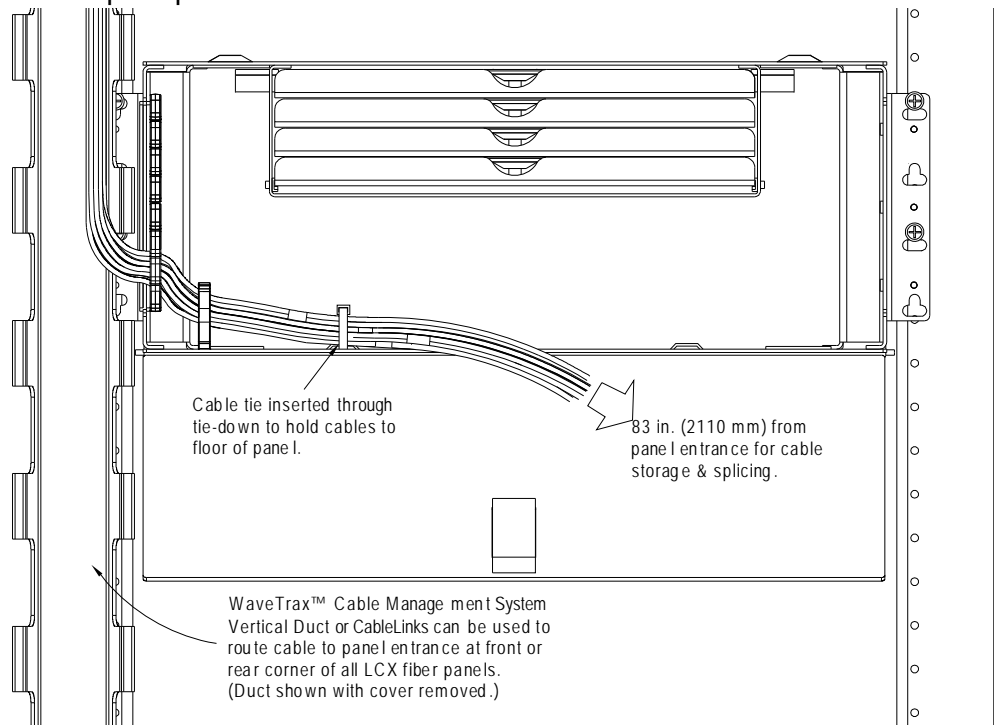

Figure 44 - Cable Placement and Securing
- If using discrete fiber cables at a front corner entrance, use a cable management system such as illustrated in Figure 44.
5. As shown in Figure 44, place the cables in the plastic ring at the panel entrance and then use the supplied cable ties (or other restraint) to tie down cables to the floor of the panel.